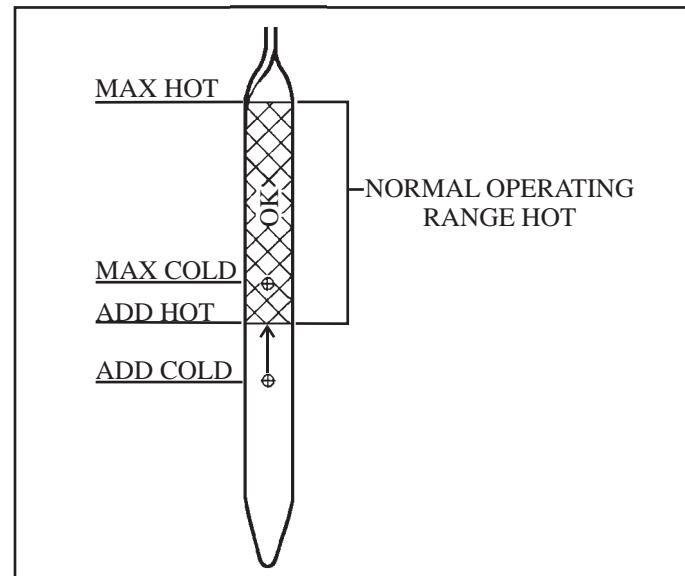

Figure 1
9. Check both sides of the dipstick, and read the lowest level. The fluid level must be in the cross-hatched area of the dipstick as shown in figure 1. There may be some splashed fluid on the dipstick above the fluid level. This is normal.